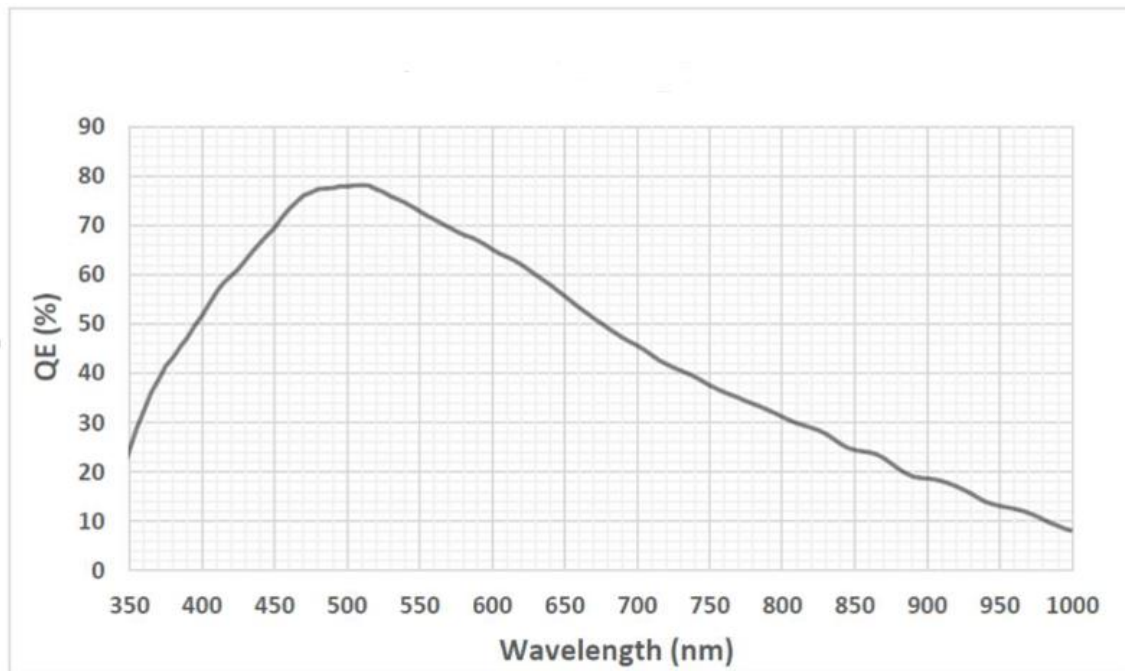

Figure 1-2
- LED is recommended as light source for the external illumination system. Please refer to the quantum yield of sensor (see figure 1-2) when selecting spectrum.